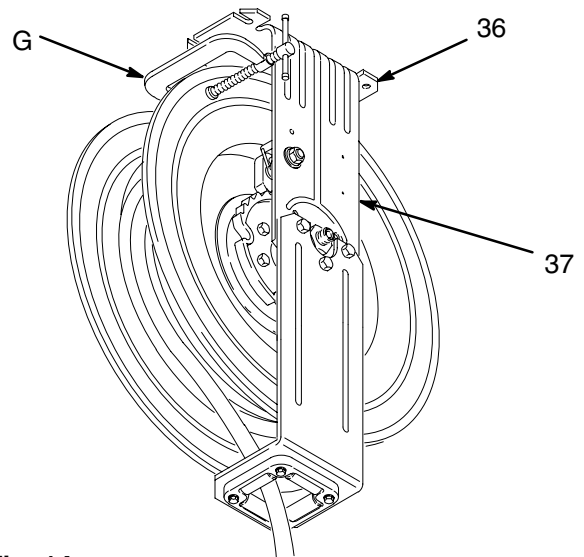

Fig. 14
3. Attach a C-clamp (G) to the reel flange to help prevent the reel from unintentionally becoming unlatched and spinning freely. See Fig. 14.